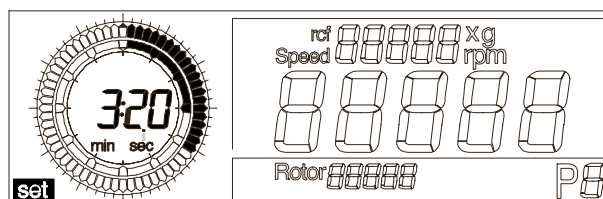

Fig. 5.9: Setting the time
- Turn the left rotary knob until the "set" cursor appears in the lower left area of the display (Fig. 5.9).
In this example (Fig 5.9) is 3:20 min.